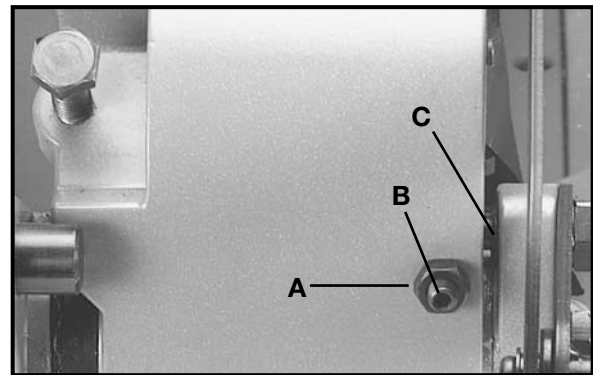

Fig. 33
2. The downward travel of the saw blade can be limited to prevent the saw blade from contacting any metal surfaces of the machine. This adjustment is made by loosening locknut (A) Fig. 33, and turning adjusting screw (B) in or out until other end of screw (B) contacts stop (C) at the full downward travel of the saw blade.
3. When making this adjustment, **MAKE SURE THE MACHINE IS DISCONNECTED FROM THE POWER SOURCE** and lower the blade as far as possible. Rotate the blade by hand to make certain the teeth do not contact any metal surfaces and adjust if necessary. After adjustment is completed, tighten locknut (A) Fig. 33.